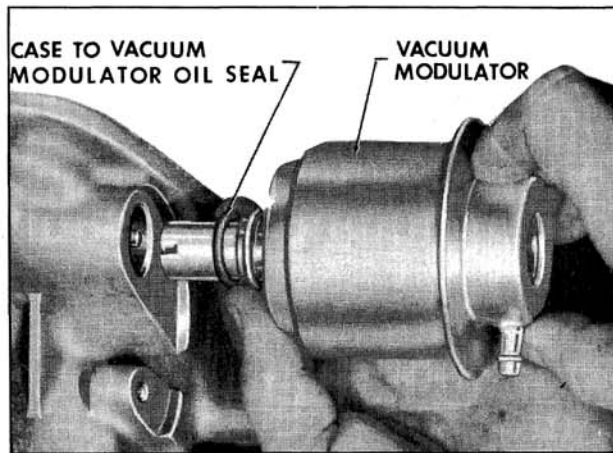

Fig. 6-545 Installing Vacuum Modulator
2. Install case to vacuum modulator oil seal. Install modulator into case. (Fig. 6-545)